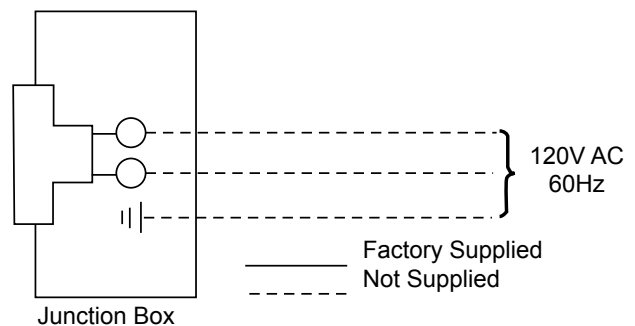

Figure 34 -
3. The junction box cover has a factory installed "romex" style strain relief connector. After connecting the wires, route the wire leads through this connector. Refer to the wiring diagram in *Figure 34*.